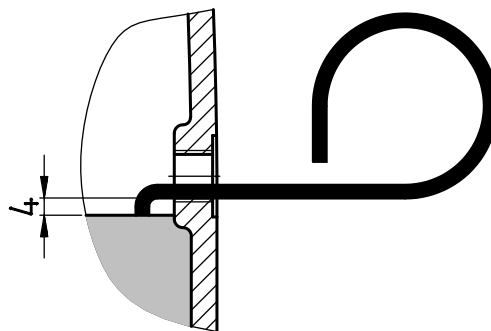

Figure 32: Checking the oil level with a dipstick
2. Check the oil level in the gear unit with the dipstick supplied (Part No.: 28300500), as shown in Figure 32. To do this, the part of the dipstick which is submerged in the oil must be held vertically. The maximum oil level is the lower edge of the oil level hole. The minimum oil level is approx. 4 mm below the lower edge of the oil level hole. The dipstick then just dips into the oil.